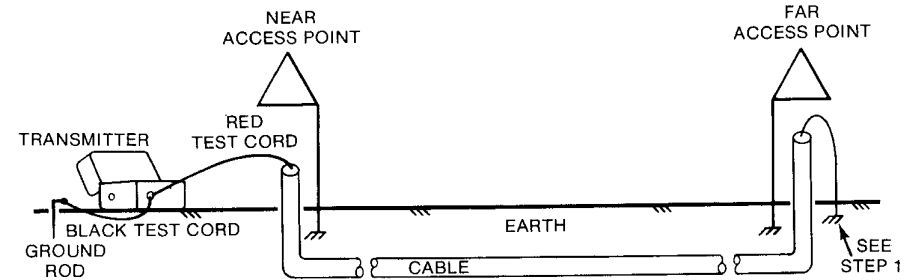

Figure 2-2.
4. Connect the black test cord clip to the ground rod (see Figure 2-2).
5. Plug the jack end of the red/black test cord into the TRACING TONE jack receptacle on the transmitter (see Figure 2-2).